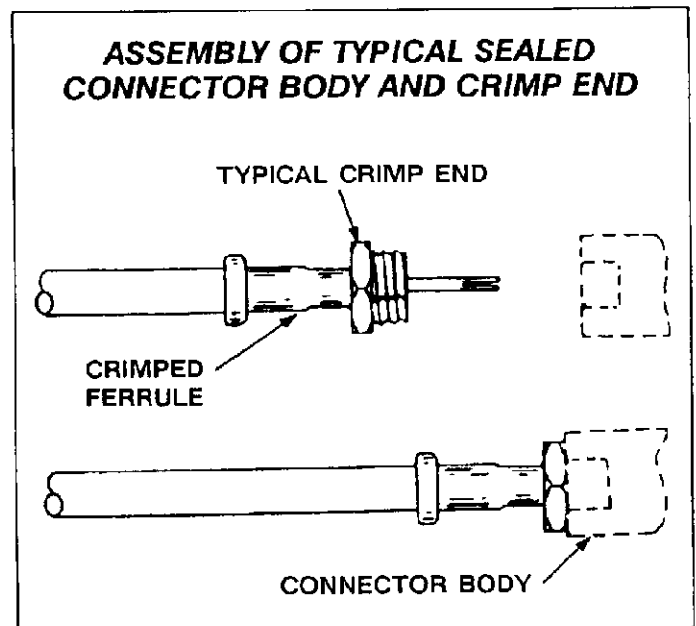

Fig. 12
2. Assemble crimp end and sealed connector as shown in Figure 12.